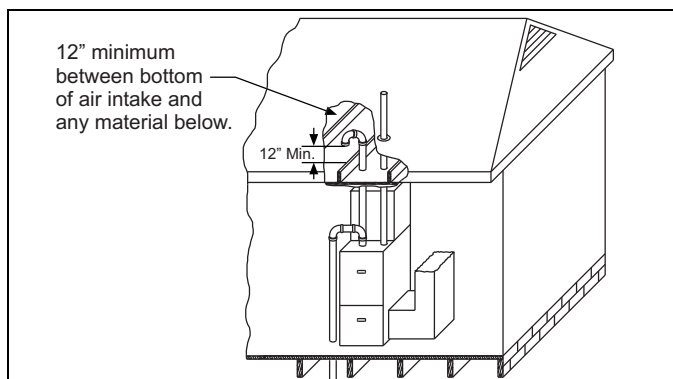

Figure 32: Attic and crawl space combustion air termination
3. **Ventilated combustion air:** Combustion air is supplied through a PVC, CPVC, or ABS pipe that is connected to the coupling attached to the burner box and is terminated in a ventilated attic or crawl space. The combustion air and the vent pipes are not terminated in the same atmospheric zone. See Figure 32 for attic and crawl space termination. Only the combustion air intake may terminate in the attic. The vent must terminate outside.
See Figure 32 for required attic termination for the combustion air intake pipe. For attic termination, use two 90° elbows with the open end in a downward position. Be sure to maintain 12 in. (30.5 cm) clearance above any insulation, flooring or other material.